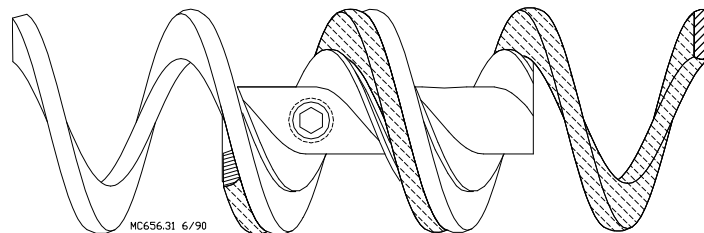

Figure 65. Auger Connector Installation
2. Untwist the remaining end of the auger 1-1/2 turns so when it is threaded onto the first end of the auger it will return to its relaxed position. Auger ends must be overlapped - **Not butted**, when threaded into the track of the auger connector, **see Figure 65.**